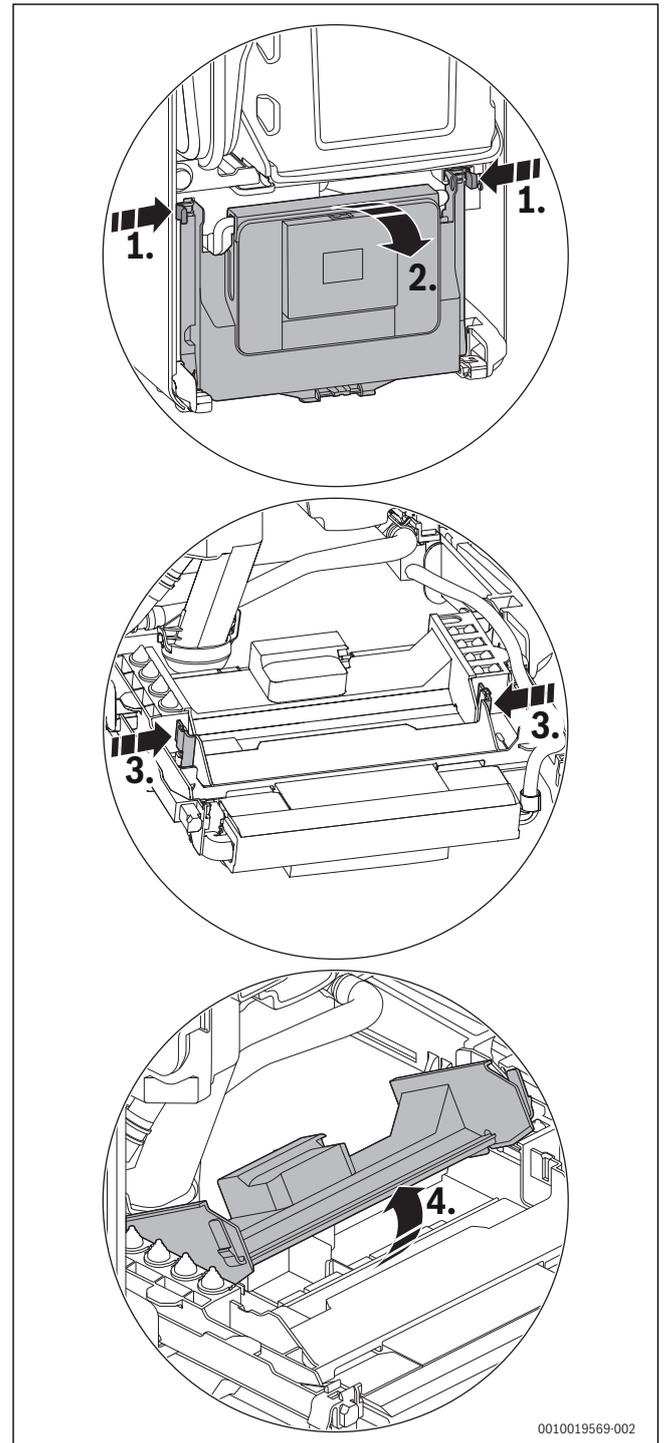

Fig. 51 Opening the cover
- ▶ Flip down the control appliance (→ Fig. 51).
- ▶ Flip down the control unit(→ Fig. 51).